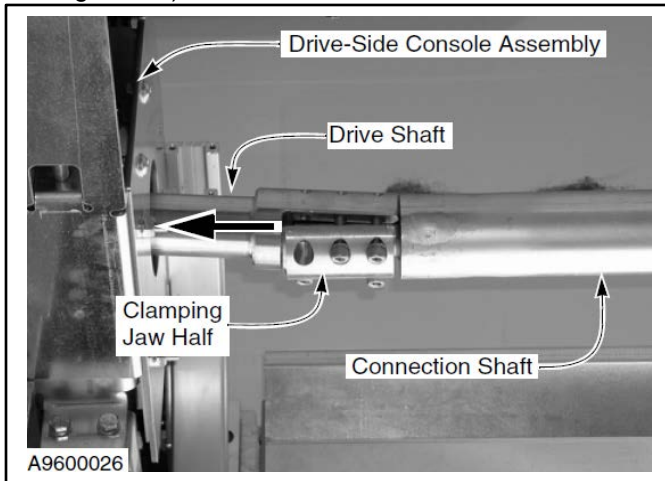

Figure 31
- Loosen the hardware on the opposite end of the drive shaft but do not remove the clamping jaw half, and insert the end of the connection shaft. (See Figure 31.)